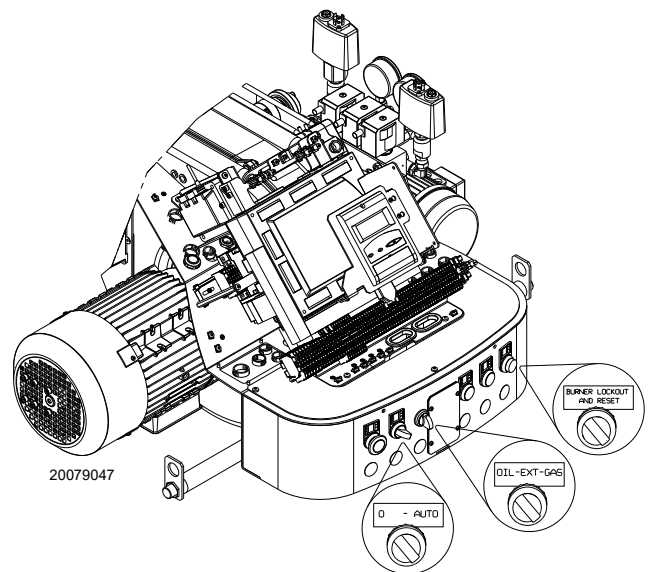

Fig. 29
Position the selector “**OIL-EXT-GAS**” (Fig. 29 on page 34) on “**OIL**” to select the light oil fuel.
Close the thermostats/pressure switches and set the switch of Fig. 29 on page 34 to “**AUTO**”.
- put the switch of Fig. 29 to “**0**” and wait until the flame control carries out the switching off phase;
Close the remote controls and position the selector (Fig. 29 on page 34) on "ON".
Put the selector (Fig. 29 on page 34) on "GAS" to select gas as the fuel.
- 1 with selector (Fig. 29 on page 34);
Positioning the selector (Fig. 29 on page 34) to "EXT" activates the remote selection of the fuel. In this position, if there is no remote selector, the display shows the priority fuel.